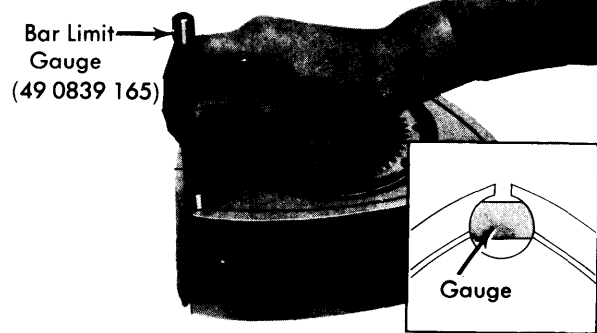

Fig. 16 Checking Corner Seal Groove Measurement
**"Go" End of Gauge Goes Into Groove** – Indicates that gap is more than standard, but less than wear limit. In this case replace corner seal, (Fig. 16).